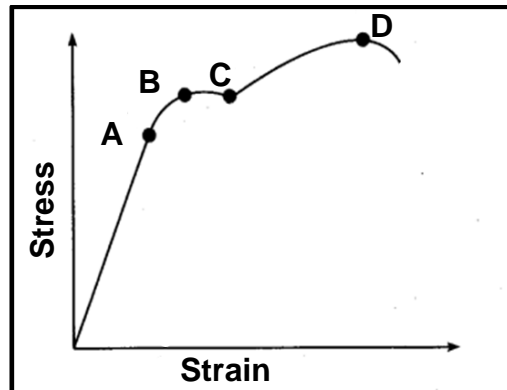

FIGURE 8.4
- 8.4 FIGURE 8.4 below shows a stress-strain diagram. Label A–D. (4)